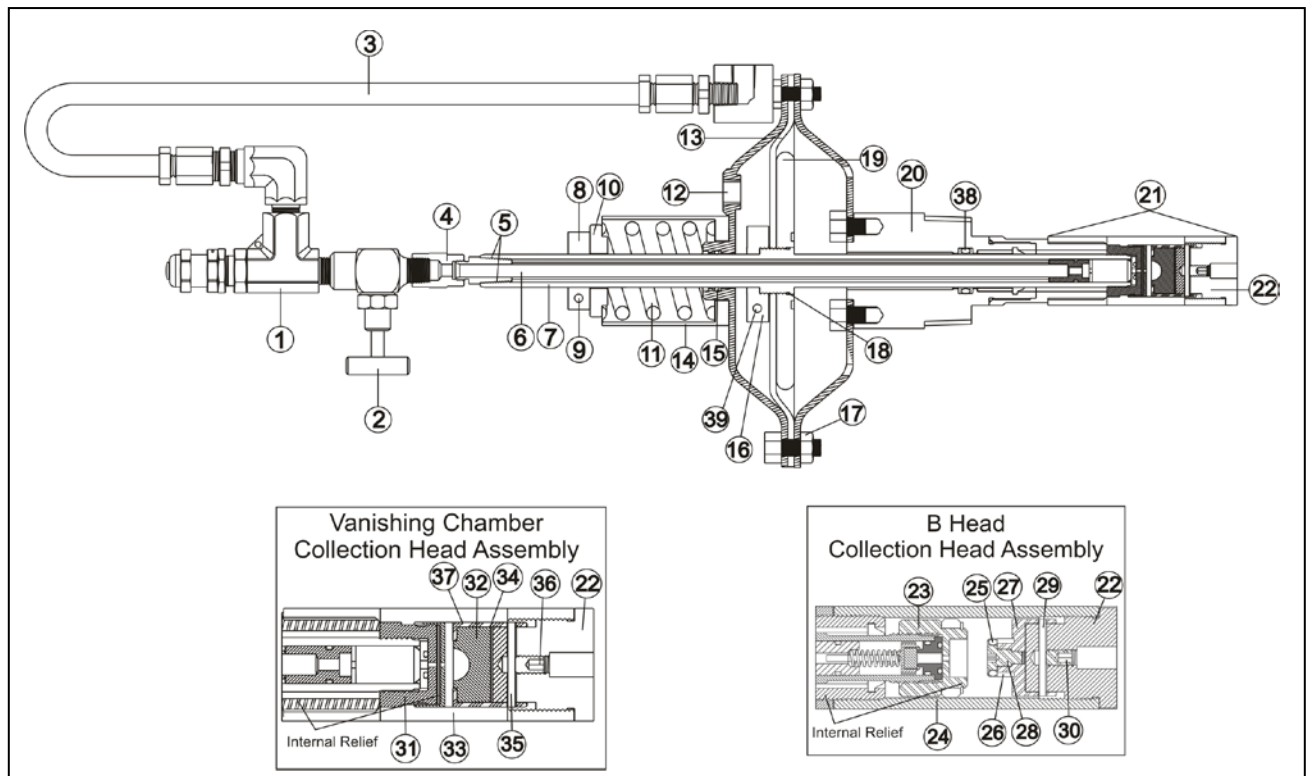

Figure 3
- 3.6.1 Remove the flex line (Part 3, Figure 3).